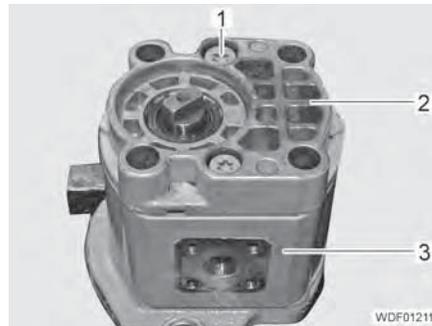

Fig. 158 Gear pump housing
- Unscrew the 2 screws (Fig. 158,1).
- Remove the cover (Fig. 158,2) and place it aside.
- Carefully remove the housing (Fig. 158,3) and place it aside.
- Pull the housing (Fig. 158,3) over the internal components.
- Place the cover (Fig. 158,2) onto the housing.
- Screw in and tighten the 2 screws (Fig. 158,1).